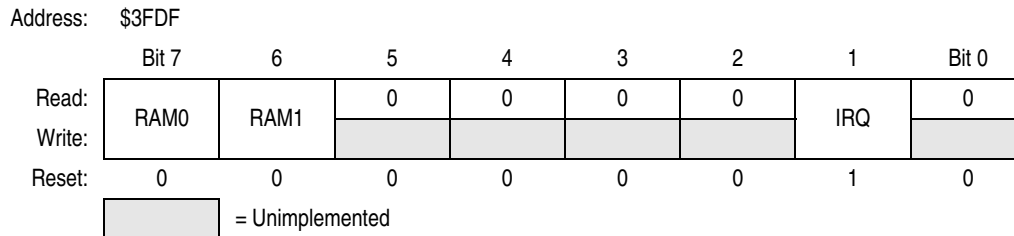

Figure 1-2. Option Register
The option register (OR), shown in Figure 1-2, contains the programmable bits for these options: